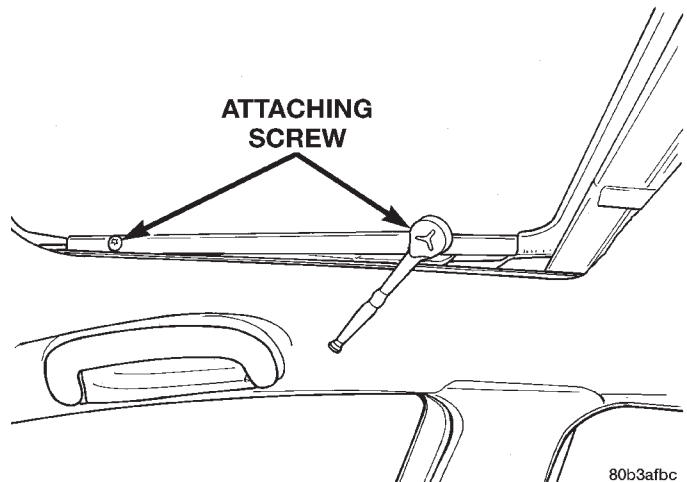

Fig. 3 Sunroof Glass Panel Removal
- (1) Slide sunshade rearward to the open position.
- (2) Move the glass panel to the fully closed position.
- (3) Remove the four attaching screws (Fig. 3).
- (4) Lift off glass panel and remove from vehicle.